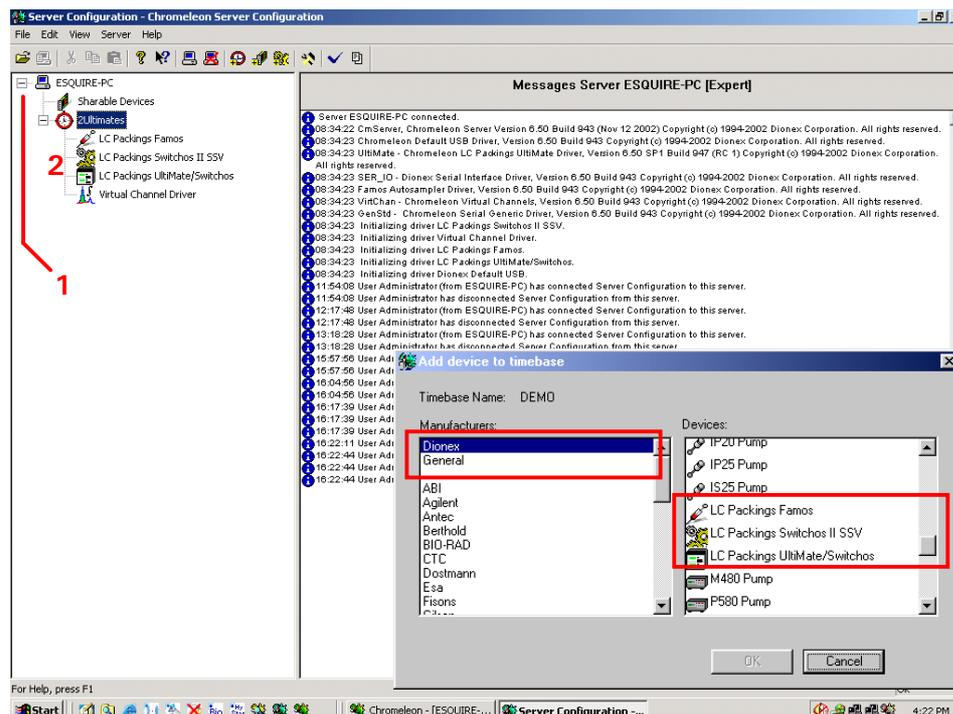
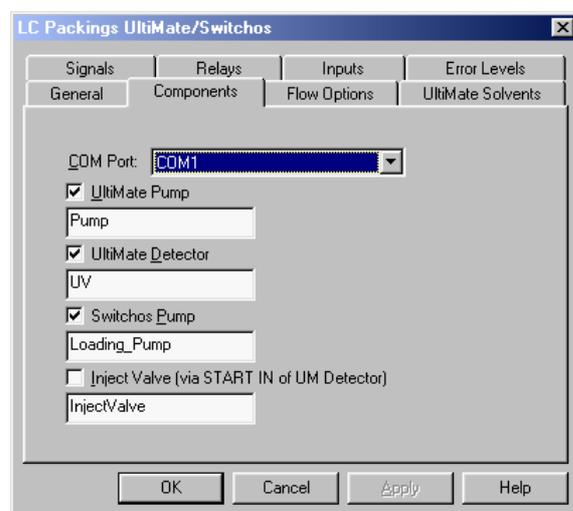

FIGURE 4-1 The Server Configuration Box
FIGURE 4-2 The UltiMate Configuration Box – Components Tab
- b) Double-click on the 'LC Packings UltiMate/Switchos' device (item 2, FIGURE 4-1). The *LC Packings UltiMate/Switchos* box appears (FIGURE 4-2).
- a) Add the 'LC Packings Switchos II SSV' device to the Timebase (FIGURE 4-1). This will present the *LC Packings Switchos II SSV* configuration box (FIGURE 4-3).
To verify or change the configuration, double-click on the 'LC Packings Switchos II SSV' device (item 2, FIGURE 4-1).
A typical setup is presented FIGURE 4-1.